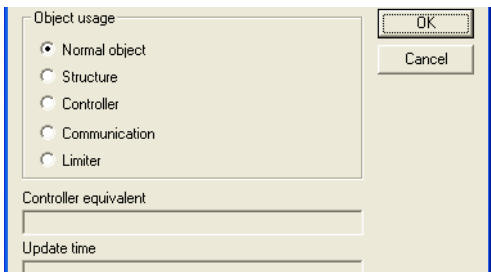

Figure 21. Object Information Settings for Comli
19. In the displayed dialog box, you can set process object usage, see also Figure 21. Possible settings depend on the used communication protocol.